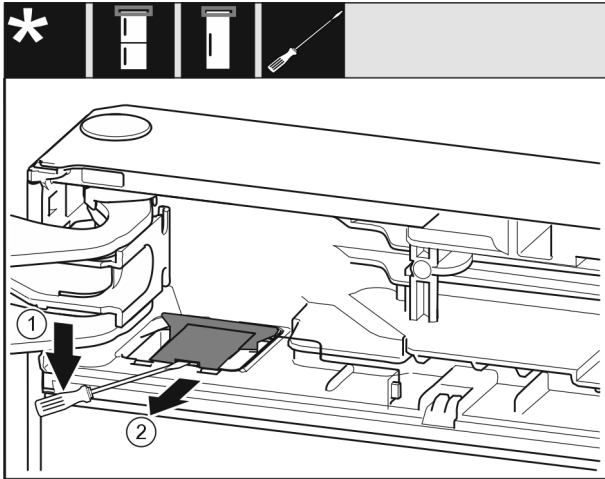

Fig. 11
- Unlatch the cover with a slotted screwdriver and lift it up. Fig. 11 (1)
- Take out the cover. Fig. 11 (2)